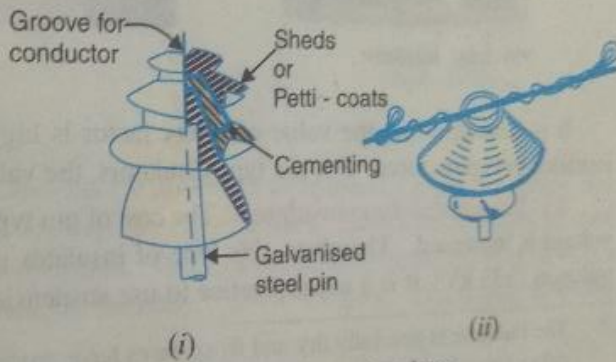

Fig. 8.5. Pin-type insulator
**Pin type insulators.** The part section of a pin type insulator is shown in Fig. 8.5. As the name suggests, the pin type insulator is secured to the cross-arm on the
pole. There is a groove on the upper end of the insulator for housing the conductor. The conductor passes through this groove and is bound by the annealed wire of the same material as the conductor [See Fig. 8.5 (ii)].